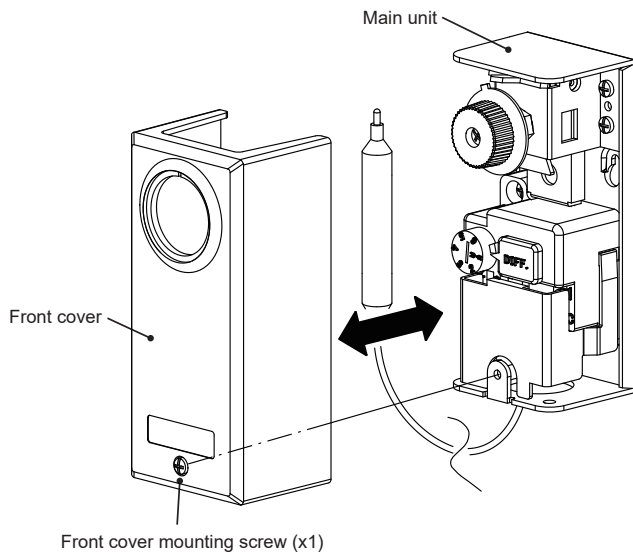

Figure 13 Attaching/detaching the front cover
- (2) Check the power supply to be used.
- (3) Turn off equipment that makes up the circuit.
- (4) Pass the electric wires through a cable gland or conduit.
- (5) Pull the electric wires into the case.
- (6) Connect the wires using the specified round terminals (M4 size).
- (7) Check that the wires are correctly placed.
- (8) Reattach the terminal cover (figure 14) and the front cover (figure 13).